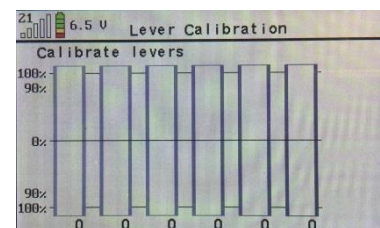

Figure: 19
- Press the ✓ button and you will be taken to the **Calibrate levers** screen. You see a bar for each lever. When you operate a lever the bar turns green. In the maximum position the bar should be 100% green. If not, the levers must be calibrated (see figure 19).